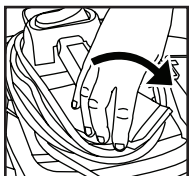

FIGURE 33
56. Grasp the sides of the rear cord wrap and turn clockwise 180° to return it to its original position. **FIGURE 33.**